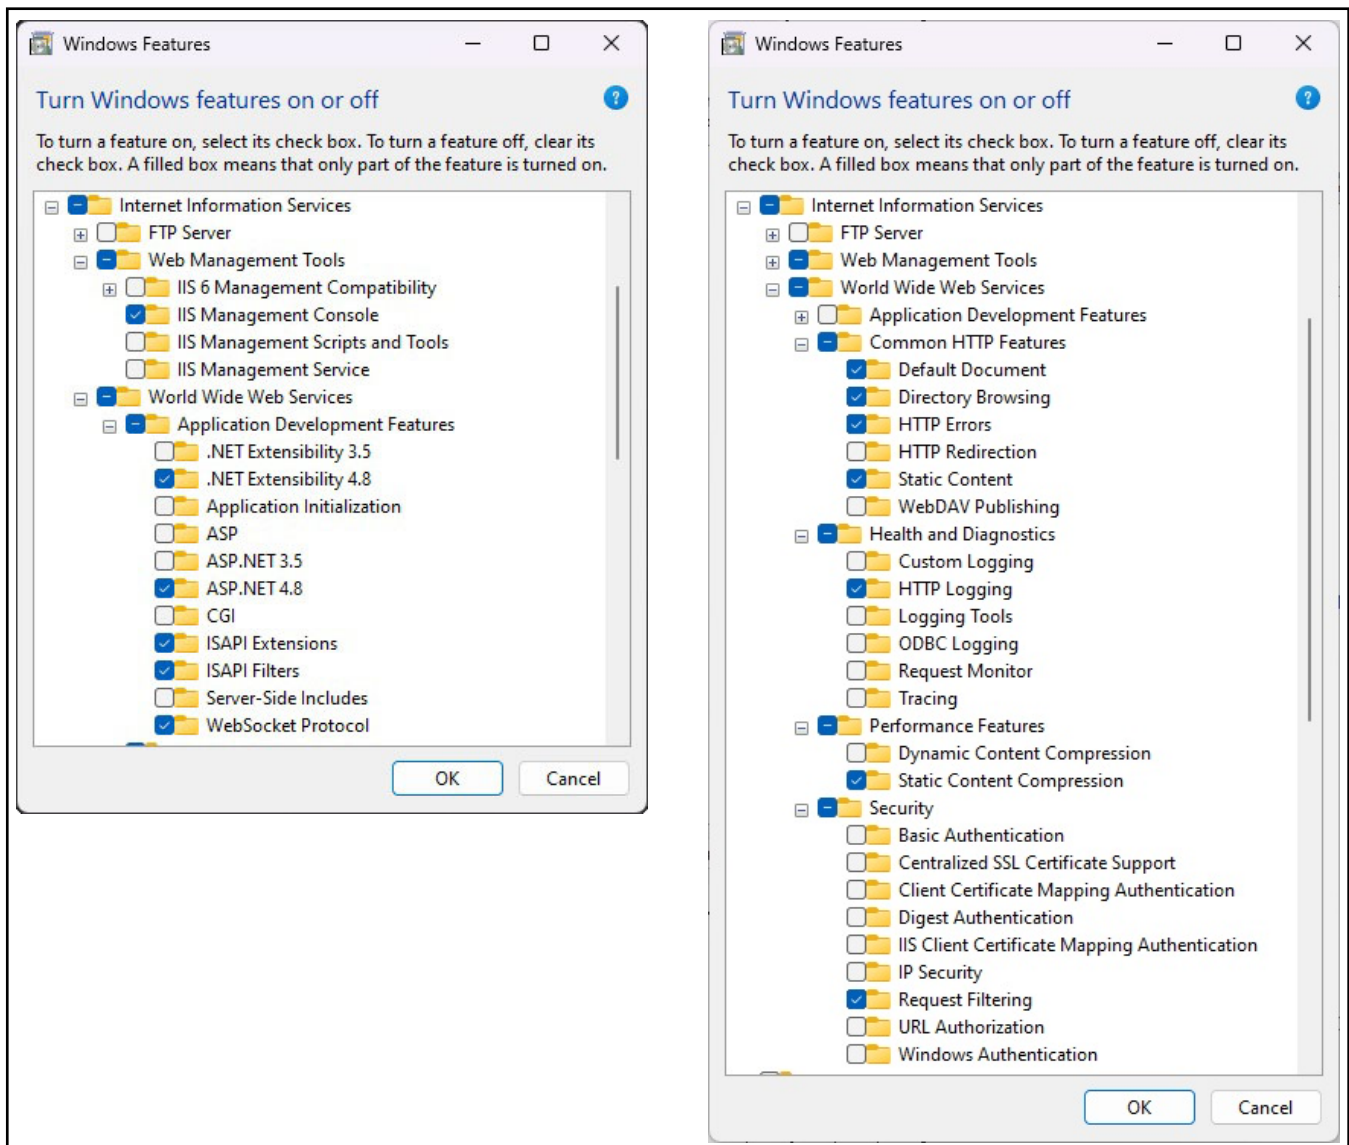

Figure 2-17. Windows Features Configured
- B.1 Windows Features window displays (see Figure 2-17 on page 16).
B.2 Expand **Internet Information Services** tree and enable check boxes as displayed in Figure 2-17.